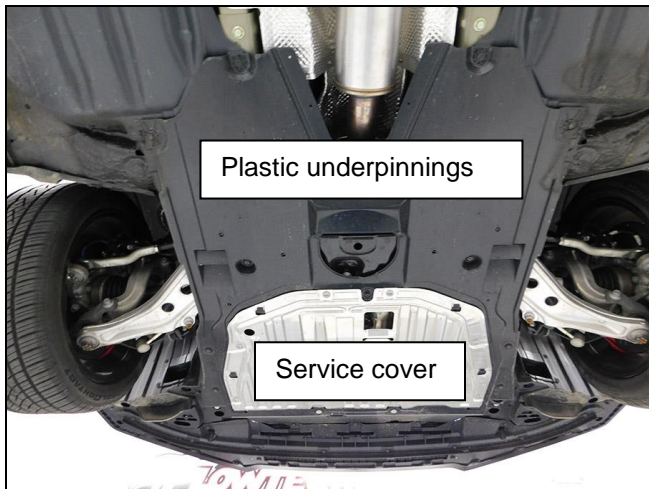

Figure 2
2. Remove the aluminum service cover and forward plastic underpinnings (**Figure 2**).